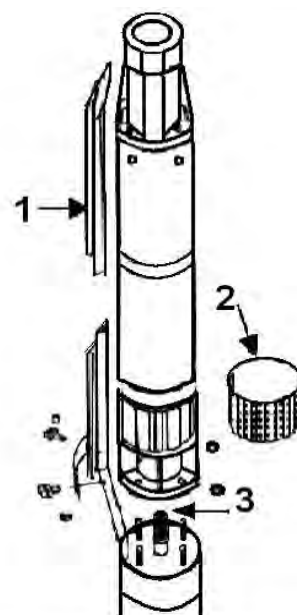

Fig. 3
- Remove cable sheathing strip item 1 on drawing No. 3,
- Remove the suction screen pos. 2 fig. 3 and expose the shaft end of the pump,
- Check that the motor shaft end rotates without any problems and jams pos. 3 on drawing No. 3,